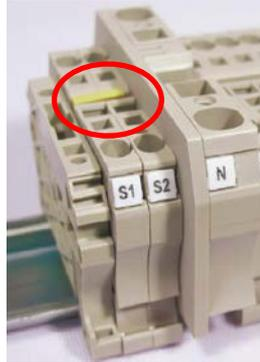

Fig. 5-5.- Jumper for short-circuiting the secondary winding of the current transformer (CT).
- Once the cables are installed, disconnect the jumper connecting terminals S1 and S2 of the bank (seer Fig. 5-5)